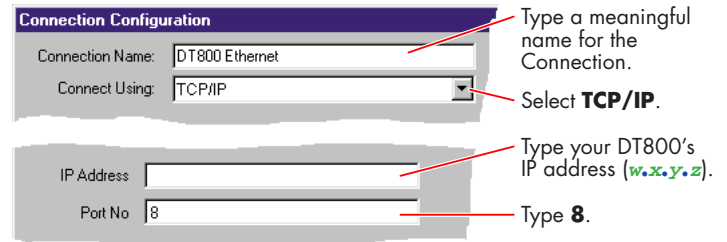

FIGURE 87 Example software connection for a DT800 on an Ethernet network (DeTransfer software shown)
- c) Using *dataTaker* host software — DeTransfer, DeLogger or DeLogger Pro — running on a computer also connected to the Ethernet network (or, for a direct connection, on the computer to which the DT800 is directly connected), create a software connection for communication with the DT800. The connection must use **TCP/IP** protocol, the DT800’s IP address (from substep 1-b-iv) and port number **8** (see Figure 87).